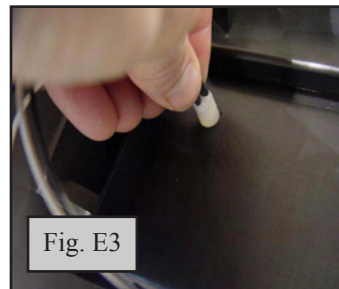

Fig. E3
3. From the back of the storage box, install the LED’s onto the lenses. Press firmly while holding the Lens from the inside. Secure with foam pad. (Fig. E3)